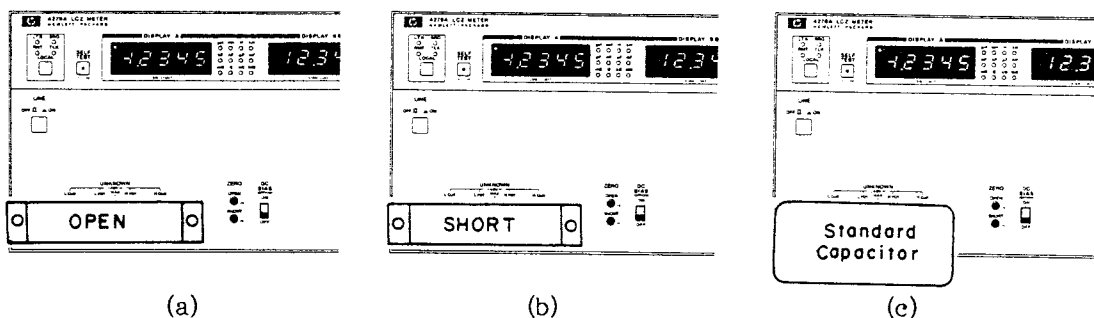

Figure 4-4. Capacitance Accuracy Test Setups.
3. Connect the 10pF Standard Capacitor directly to the UNKNOWN terminals as shown in Figure 4-4 (c).